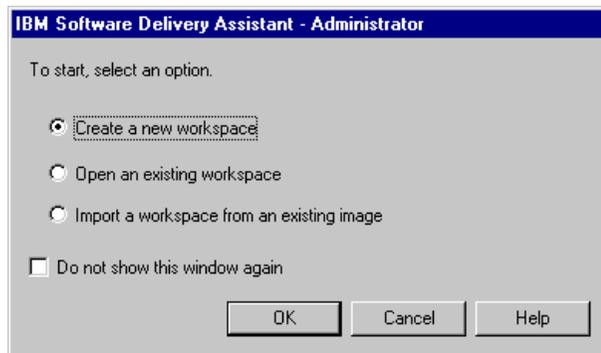

Figure 59. Software Delivery Assistant main window
5. Click **Next** at the Welcome window. Figure 59 appears.